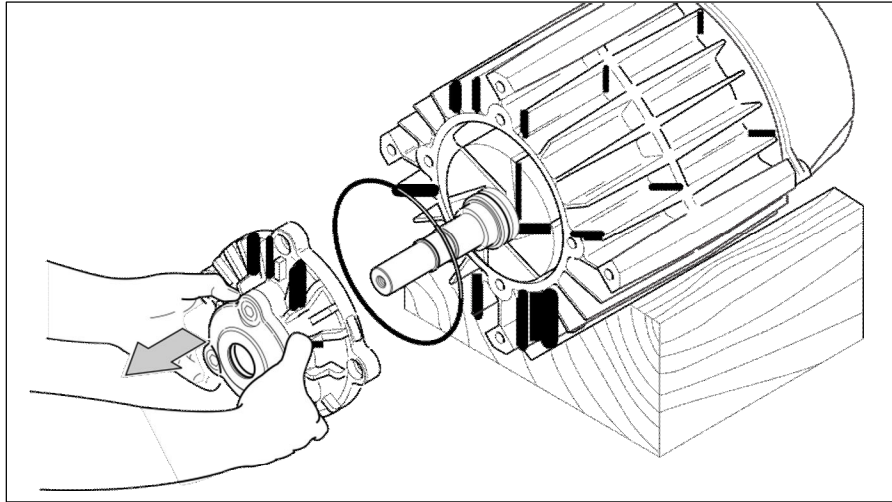

Figure 8. Sideplate removal.
3. Remove the sideplate and check that the O-ring is not damaged. See Fig 8.